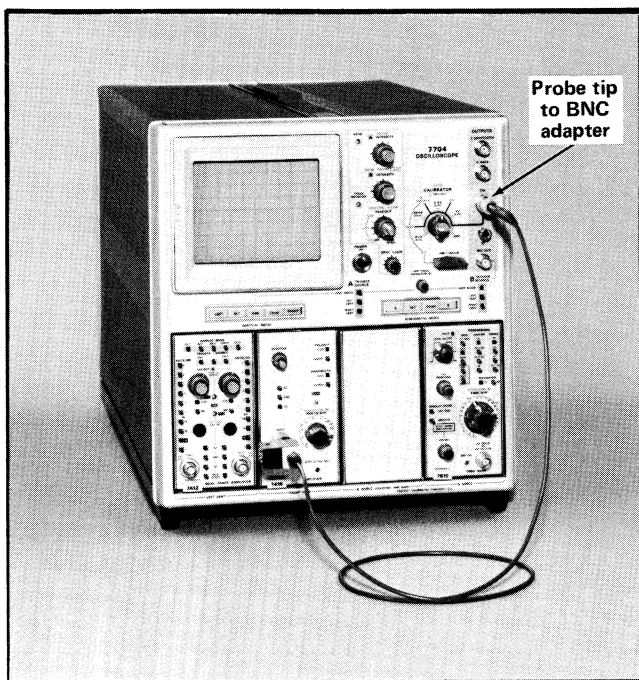

Fig. 4-1. Equipment setup for steps 1, 2 and 3.
a. Install the 7A12 and 7A16 amplifiers into the LEFT VERT and RIGHT VERT compartments respectively, and the time base unit into the A HORIZ or B HORIZ compartment of the indicator oscilloscope as illustrated in Fig. 4-1.
a. Equipment setup is shown in Fig. 4-1.
- a. Equipment setup is shown in Fig. 4-1.